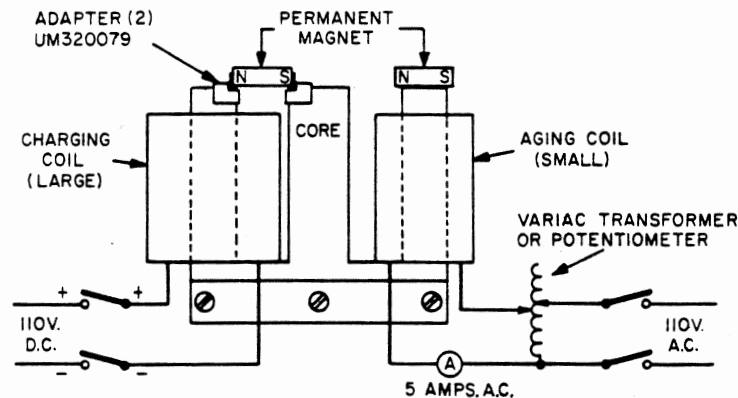

Figure 2 - Use of Magnet Charger
1. Place magnet on charger as shown in Figure 2 with end marked "N" on
1. Place the magnet on the aging coil as shown in Figure 2. To increase the aging effect per unit ampere in aging coil, hold the magnet closer to the center core.